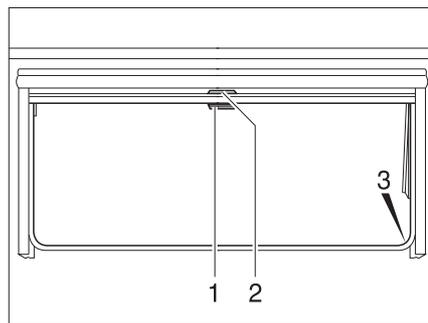

Fig. 41 Hinged window
- Pull blind at the handle (Fig. 41,2) downwards. If the blind is to be completely closed, it is suspended into the locking devices (Fig. 41,3) situated on both sides of the window frame.
- If the blind is completely closed: Press the handle (Fig. 41,2) downwards and, at the same time, tilt it slightly inward. The blind can be taken out of the locking devices situated on both sides of the window frame.
- If the blind is in an intermediate position: Pull the handle (Fig. 41,2) slightly downwards until the locking device releases.
- Pull the roller insect screen at the handle (Fig. 41,1) downwards and hang it into the locking devices (Fig. 41,3) situated on both sides of the window frame.
- Press the handle (Fig. 41,1) downwards and, at the same time, tilt it slightly inward. The roller insect screen can be taken out of the locking devices situated on both sides of the window frame.